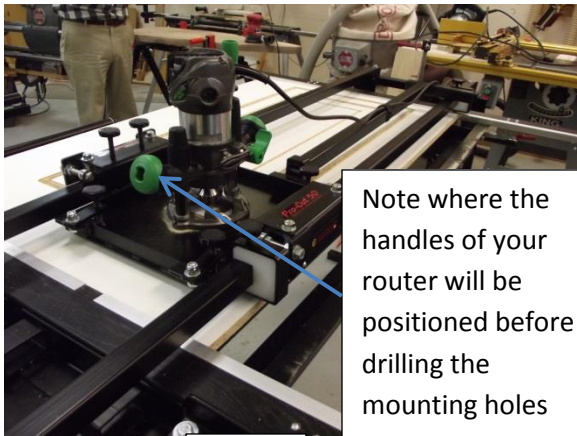

Fig 30
- 2) Use the router base plate as a template to mark where you will drill the three mounting holes in the Pro-Cut 50 router insert plate. **Be sure the router handles are facing the way you want before you drill the 3 mounting holes in the router insert plate.(See Fig 30)**